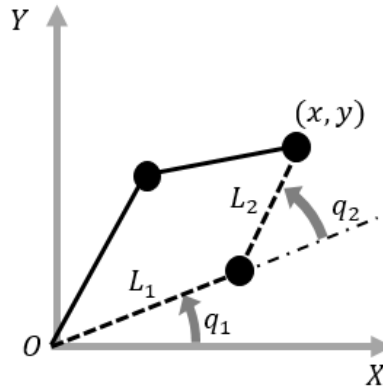

Figure 1: The kinematics of a two-link manipulator. Both the forward and inverse kinematics can be found in the lecture notes.
particular case of a 2-link, planar arm (fig. 1), with link lengths  $L_1$  and  $L_2$ , and with joint angles  $q_1$  and  $q_2$ , we use (Eq. 1) and (Eq. 2).
**Two-link manipulator** The two-link manipulator is shown in Figure 1, in which we define the length of two links ( $L_1, L_2$ ) in meters, and joint positions ( $q_1, q_2$ ) in rad, and target endpoint position ( $x, y$ ). **Both  $q_1$  and  $q_2$  are defined as positive about the  $Z$  axis (out of the page).** The inverse kinematic solution follows that of fig. [1]: